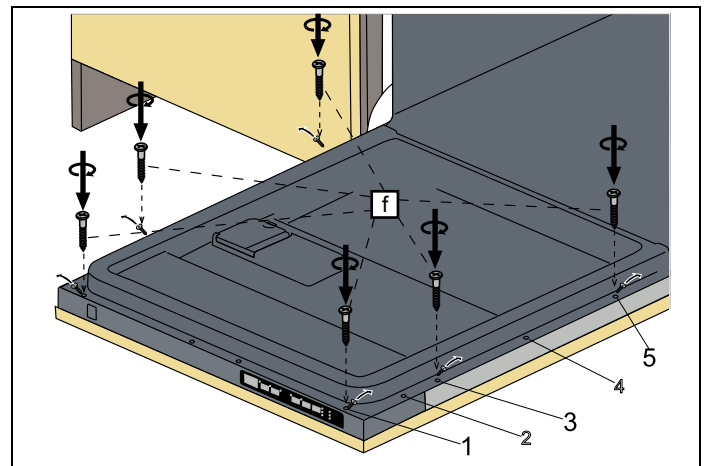

Fig. 27
6) The screws located on the wooden door are fitted to the dishwasher at the discharges located on the door outer sheet and are assembled as shown in Fig. 27 .
7) As shown in Fig. 27 , Screws  $\text{Ø}5/32'' \times 53/32''$  ( $\text{Ø}4\text{mm} \times 42.5\text{mm}$ ) are installed in positions I, III and V.